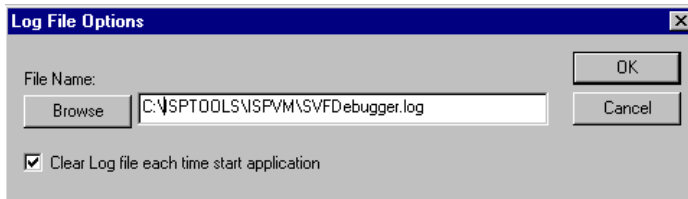

Figure 3-10. Log File Options dialog
1. Choose **Configuration** ⇒ **Log File Options** to open the log file Options dialog (Figure 3-10).